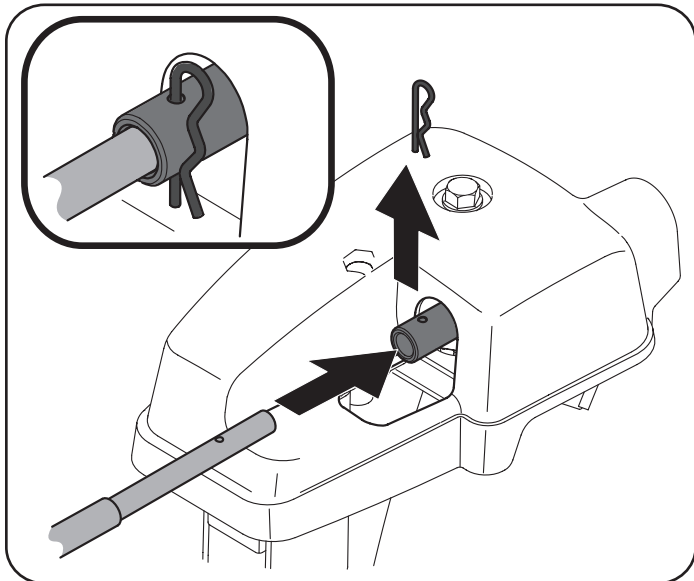

Figure 29
- Remove hairpin clip from rear of chute control assembly. See Figure 29.
- Insert flex shaft removed during handle assembly from lower handle into rear of chute directional control head. See Figure 29. Secure flex shaft to chute control head with hairpin clip removed in Step 4.